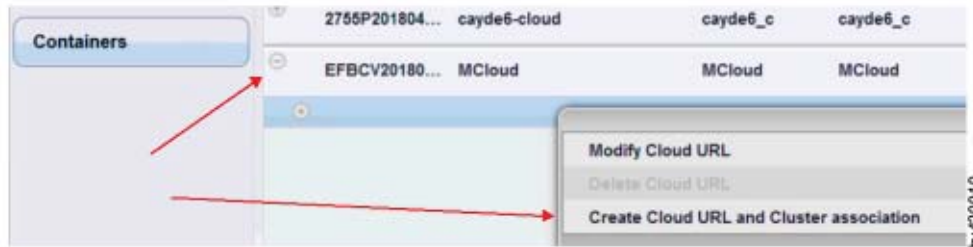

Figure 49. Create Cloud URL and Cluster Association
**Note:** You might have to click the + next to the **Container name** to expand the display to show the new URL. See Figure 49.